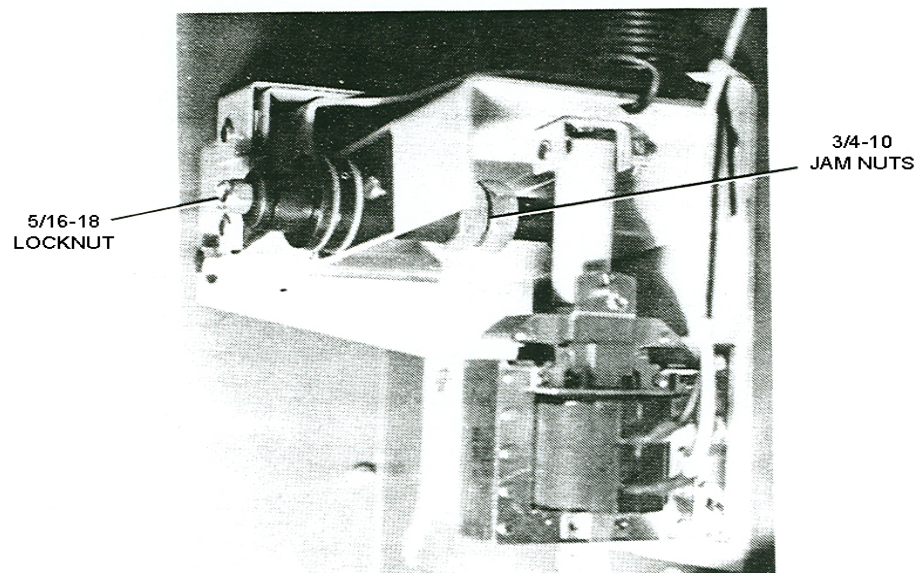

Figure 3
1. The “back-off clutch” adjustment is located on the compound shaft inside the channel section of the hinge arm. See Figure 3. The adjustment is made by loosening the two $\frac{3}{4}$ -10 jam nuts and turning the nut closest to the spring counterclockwise to increase the clutch pressure or clockwise to decrease the clutch pressure. The back-off clutch should be adjusted so that the compound block will slip away from the buffing wheel after the solenoid has been activated, but must be tight enough to keep the compound block from falling down onto the buffing wheel during the polishing cycle. This adjustment will not control the amount of compound (gloss) applied to the ball during a polishing cycle. An operational check of this adjustment can be made by rotating the buffing wheel by hand and noticing that there is not drag on the buffing wheel caused by contact with the compound block. A $\frac{1}{16}$ ” clearance space should exist between the buffing wheel and the surface of the compound block when the compound block is not engaged against the buffing wheel. Then manually close the solenoid. Refer to Figure 3. Rotate the buffing wheel by hand. There should be a noticeable drag on the buffing wheel caused by contact with the compound block.
2. To adjust the “compound advance clutch” located on the outside edge of the hinge arm, turn the 5/16-18 hex lock nut clockwise to increase the clutch pressure or counterclockwise to decrease the clutch pressure. See Figure 3. The advance clutch must be tight enough to OVERRIDE the compound back-off clutch during compound solenoid activation. If the “compound advance clutch” is too tight, the compound block will not be allowed to come off the buffing wheel when the compound application solenoid has been disengaged. An operational check of the clutch adjustment can be made by manually closing and then releasing the compound solenoid several times in succession. As this solenoid is being closed and then released successively, note a slight movement of the disc with the roll pin that goes through it. Refer to *Figure 3*.